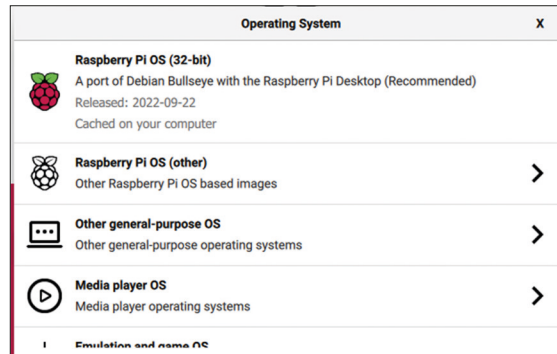

Figure 1.7: Choose the Raspberry Pi OS.
- Click **CHOOSE OS** and click to choose the **Raspberry Pi OS (32-bit)** as shown in Figure 1.7.